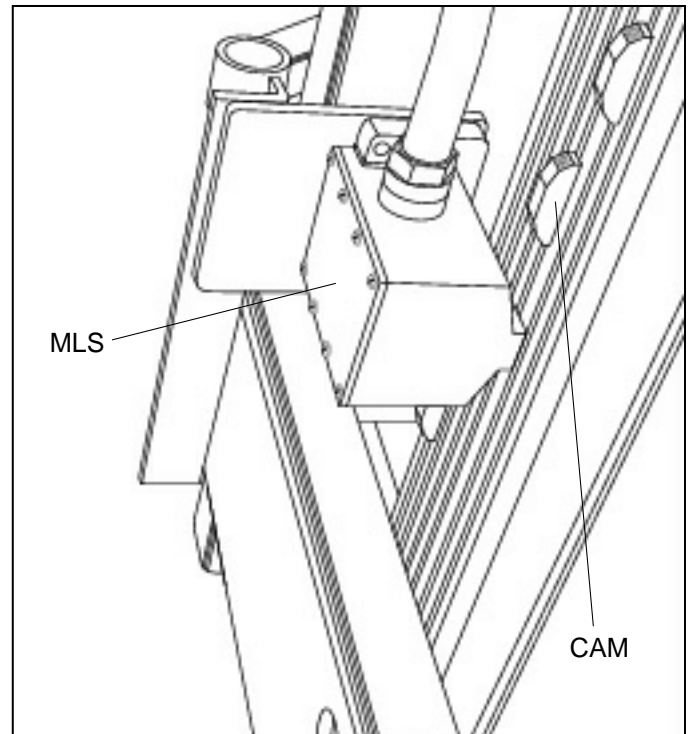
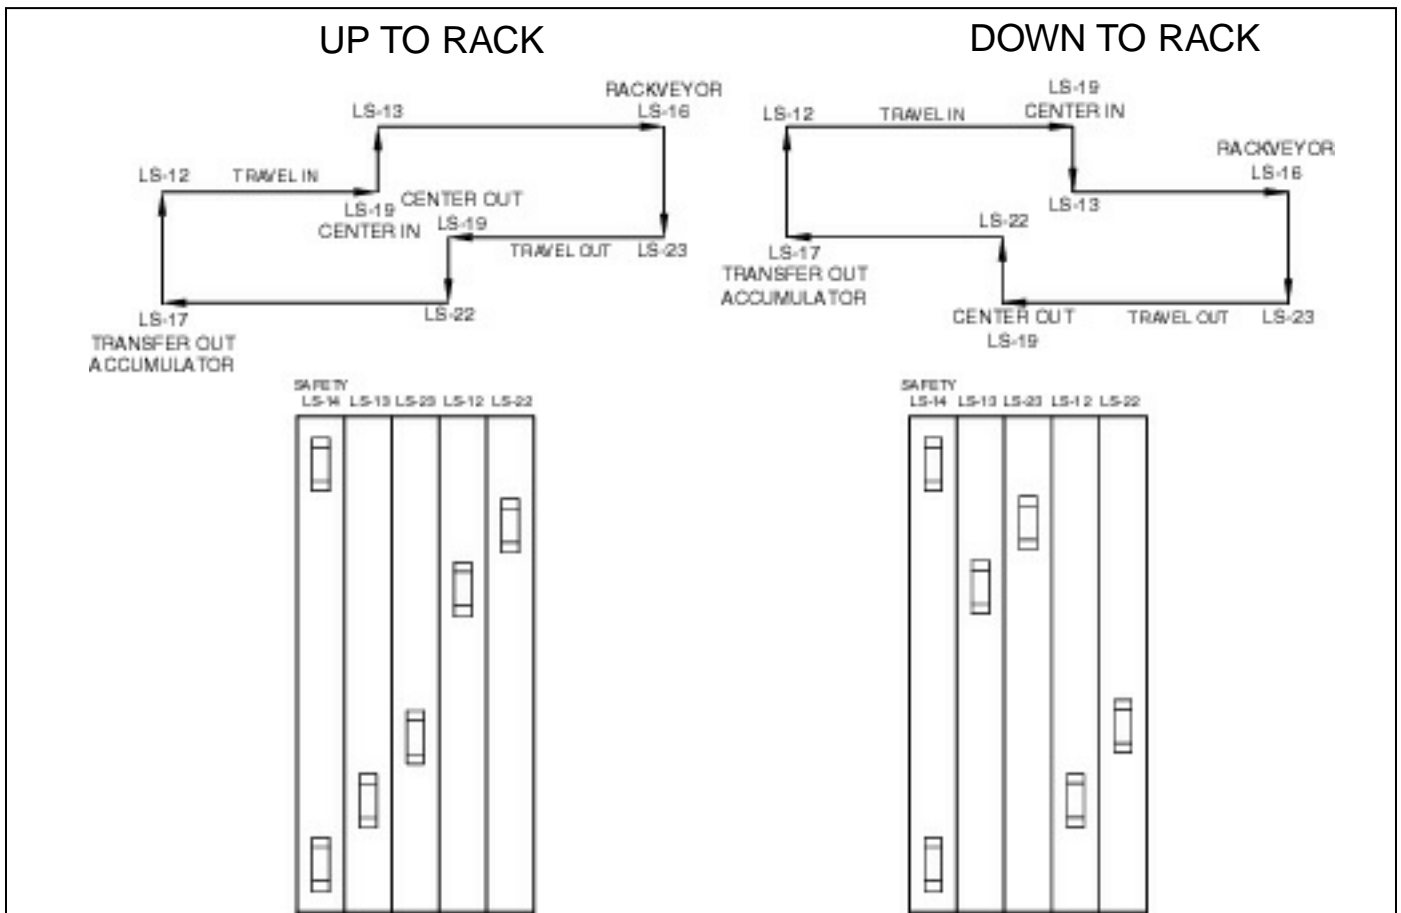

Figure 2.9 MULTIPLE LIMIT SWITCH (MLS).
Figure 2.10 CAM CONFIGURATION (APPROXIMATE).
A MLS (figure 2.9) is located on the loader spade. 5 switches control the up and down movement of the lower spade. It is important to adjust the cams so that switches are actuated at a precise location. Figure 2.10 below identifies all 5 switches in the switch box.
2.1.7.3 Refer to figure 2.10 below to identify switch direction and approximate cam locations. Remember that these cam locations are approximate; they will need to be adjusted as shown here.